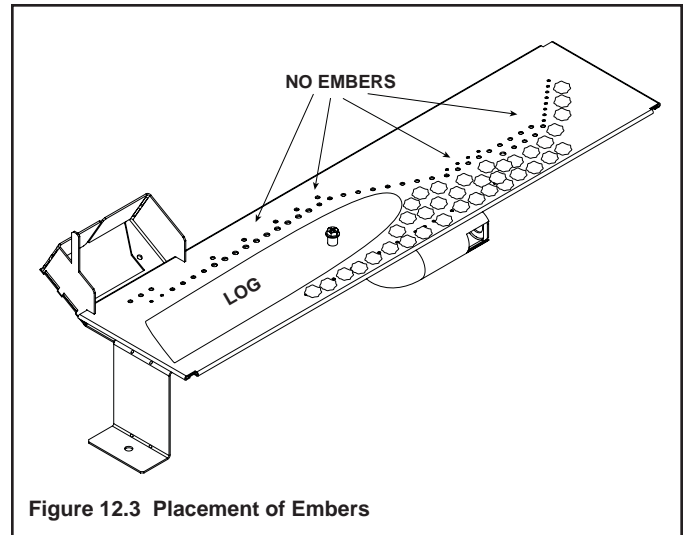

Figure 12.3 Placement of Embers
- When placing Glowing Embers® onto the burner care should be taken so that the ports are not covered. Place the dime-size ember pieces near the port holes in the burner top (see Figure 12.3). Failure to follow this procedure will likely cause lighting and sooting problems.